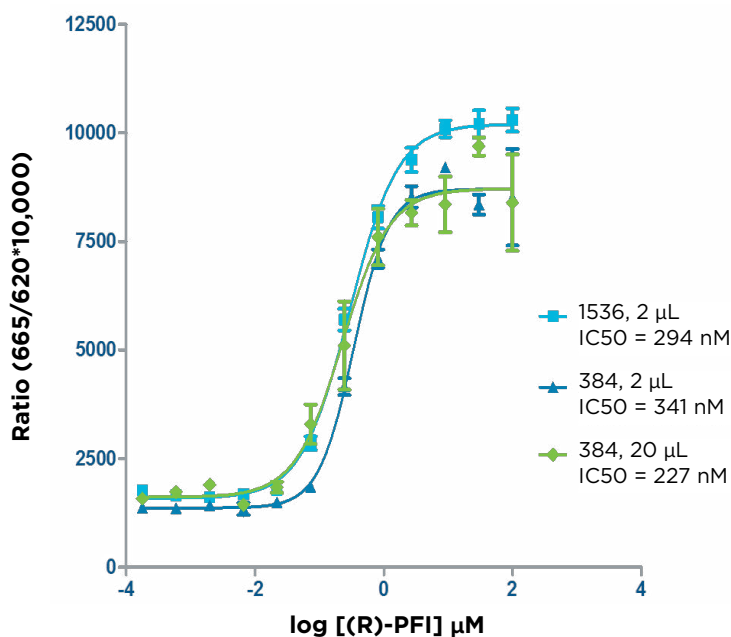

Figure 4: SET7/9 inhibition curves and IC₅₀ values with (R)-PFI-2 at different assay volumes and plate formats.
(R)-PFI 2 hydrochloride is a potent inhibitor of SET7/9 activity. To determine the IC₅₀ of the inhibitor in this assay, a 12-point half-log dose response series starting at 100 μM was generated in DMSO. Each point of the compound dose response curves was first transferred in triplicate to 384-well or 1536-well assay plates with the Echo liquid handler. 40 nM SET7/9 and 800 nM peptide and 1 μM SAM were added with the Echo liquid handler (for enzymatic and detection reagent volumes see Table 1). Enzyme reaction steps and incubations were performed as in the enzyme titration assay. The assay measurements were taken following the final incubation period and plotted as log inhibitor concentration vs. HTRF ratio (see Figure 4).
IC50 values for the (R)-PFI 2 hydrochloride were comparable between the 384-well microplates and the 1536-well microplates (Figure 4). Data generated with the PHERAstar FS for both 384 well assays exhibited high Z' factors : 0.83 for the 20 μ L assay and 0.88 for the 2 μ L assay, and these values were also comparable to the 0.93 Z' value obtained for the 1536 well assay at 2 μ L (see Table 2).